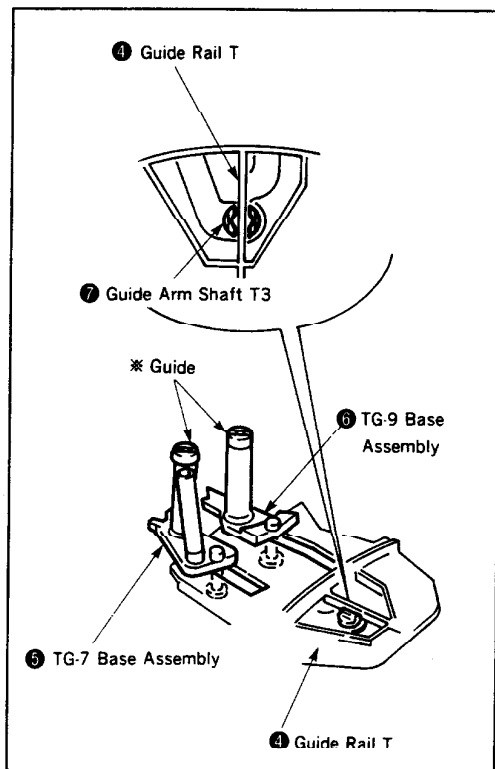
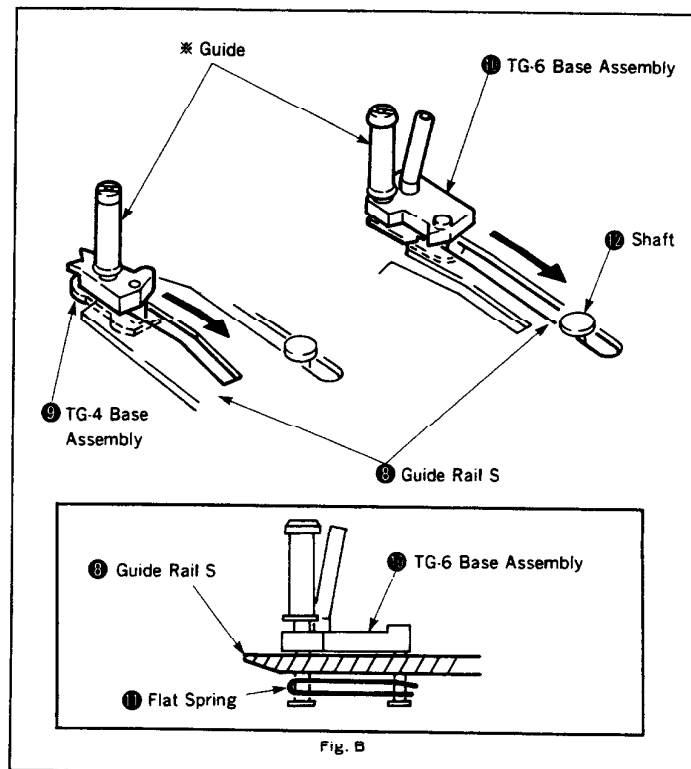

Fig. 25
Fig. 26
Note : Do not touch the guide *. (Fig. 25 and Fig. 26)
- 2) Fit the TG-7 base assembly ⑤ and TG-9 base assembly ⑥ in the grooves of the guide rail T ④. (Fig. 25)
- 3) Put the shaft ③ flange in the long groove of the guide rail S ⑧, and fit the TG-4 base assembly ⑨ and TG-6 base assembly ⑩ into the right and left grooves of the guide rail S ⑧ respectively.
When this is done, see to it that the flat spring of the TG-6 base assembly ⑩ is located below the guide rail S ⑧ as shown in Fig. B. (Fig. 26)